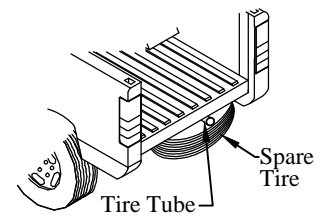

Figure 8: Spare tire and spare tire tube location.
1. **Lower** the spare tire (Figure 8).
4. **Trim** the spare tire tube so that it is even with the rear of the truck box (Figure 8).